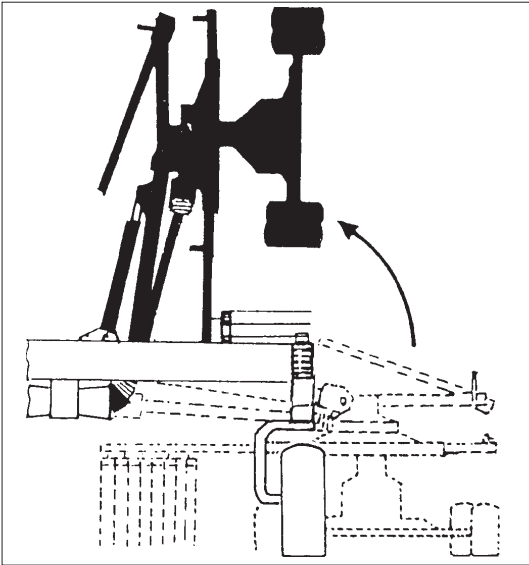

Fig. 3-16
4. Open the hydraulic stop valve, raise the lateral machines with the tractor hydraulic system (fig. 3-16), releasing the lift limits with the black unlocking cable until the segments engage on the lift arms in the lift limit (F) (fig. 3-17) and both hydraulic cylinders are completely retracted. Then close the hydraulic stop valve again (fig. 3-4), so that it is not possible for the lateral machines to be lowered during road transport by unlocking the lift limits by mistake.